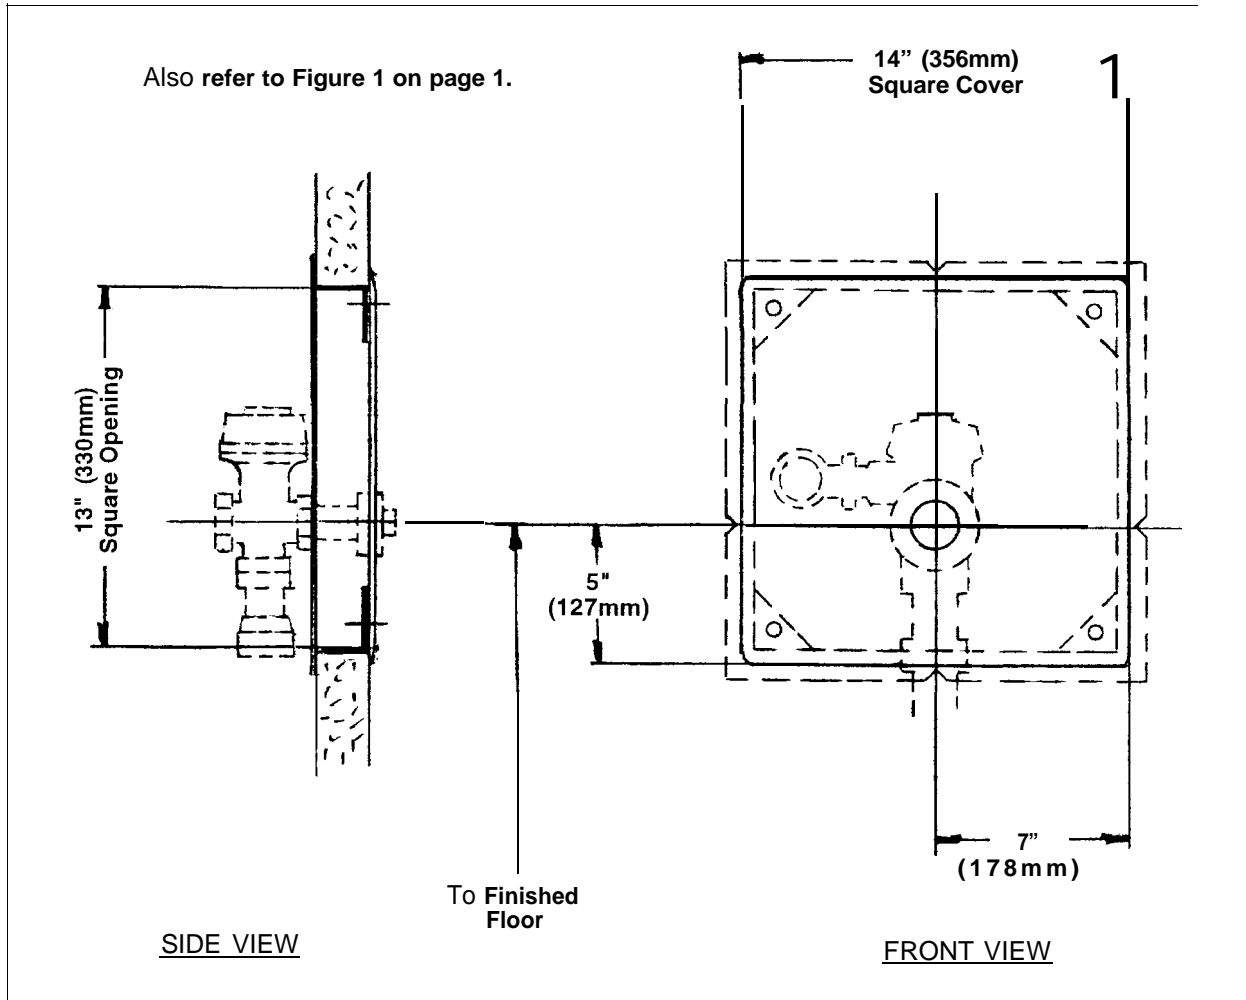

Figure 2
2. Rough-in a 13" (330mm) square opening in the wall for the access box (see Figure 1 and Figure 2 on page 2).